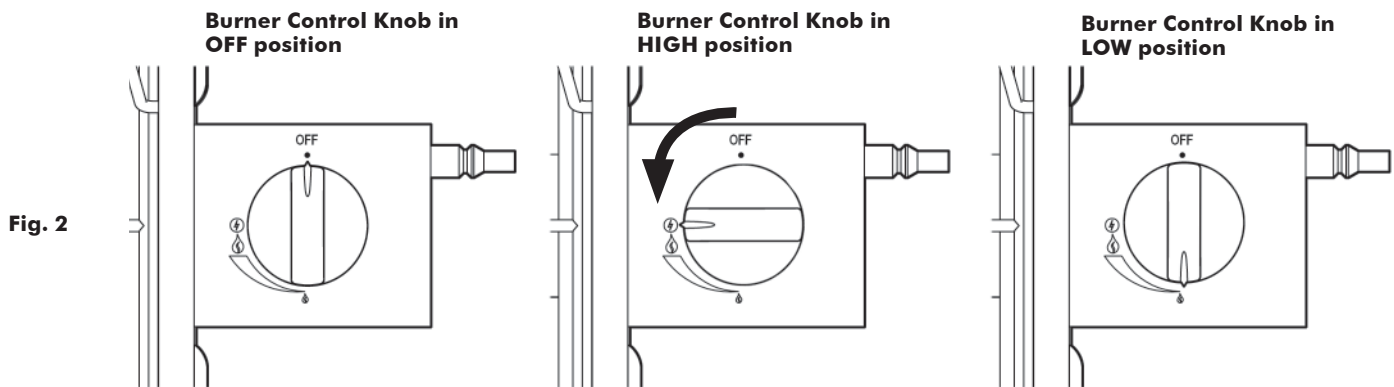

Fig. 2
2. Push the Burner Control Knob in and turn 90 degrees counterclockwise to the High position (Fig. 2).